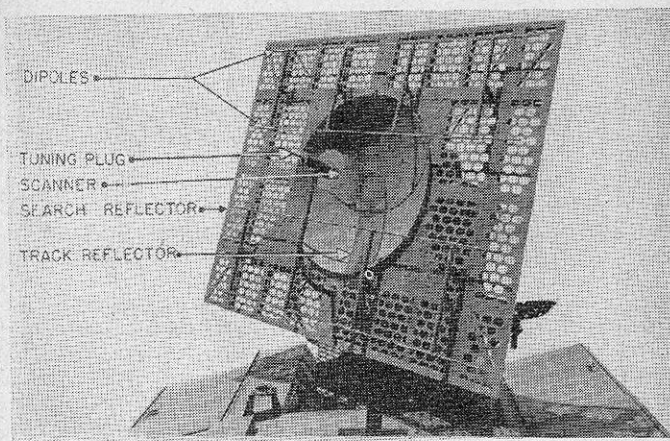

FIGURE 27.—Front view of antenna.
■ **25. ANTENNA.**—The **SEARCH** and **TRACK** antennas are mounted on a common pedestal which may be rotated in azimuth and elevation (angular height). Figure 27 shows both antennas. The **SEARCH ANTENNA** consists of the 16 dipoles mounted on the perforated sheet steel reflector. The
k. Set the TUNING PLUG (fig. 27) at its marked setting.